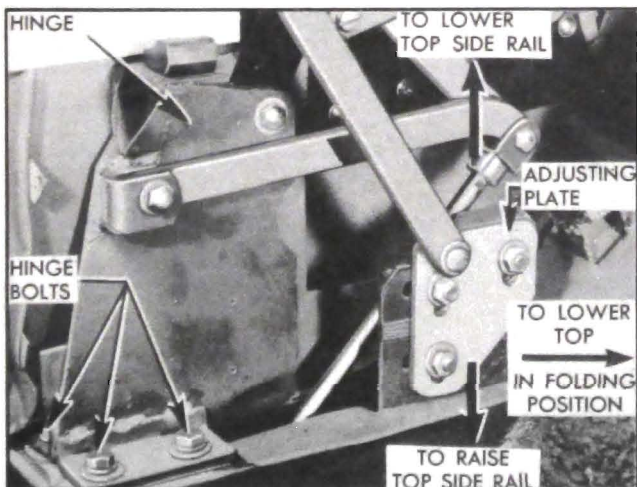

Figure 13-49—Top Adjusting Plate and Top Bow Hinge in Rear Quarter
3. Loosen the three attaching bolts at top adjusting plate in rear quarter on side to be adjusted. See figure 13-49. Move adjusting plate straight downward to raise the roof side rail, or move plate straight upward to lower roof rail. **CAUTION:** Do not move adjusting plate forward or rearward since the folded position of top will be affected.
If the top does not contact the bumper on each side of top compartment when it is down in folded position, loosen the three attaching bolts at top adjusting plate in rear quarter, move plate straight rearward and tighten bolts. See figure 13-49. **CAUTION:** Do not move plate vertically because this will affect the position of top
If the weatherstrip does not fit closely enough to the curved rear end of a quarter window, a limited adjustment may be obtained by removing weatherstrip and retainer and placing a waterproof cardboard shim between retainer and the top rear quarter rail. Another method of adjustment is to shift the top bow hinge which is mounted on the body in the rear quarter. By loosening the hinge attaching bolts (fig. 13-49) the hinge may be moved forward or rearward as allowed by oversize bolt holes in hinge. This adjustment also may be used if insufficient clearance exists between rear quarter window and the weatherstrip.